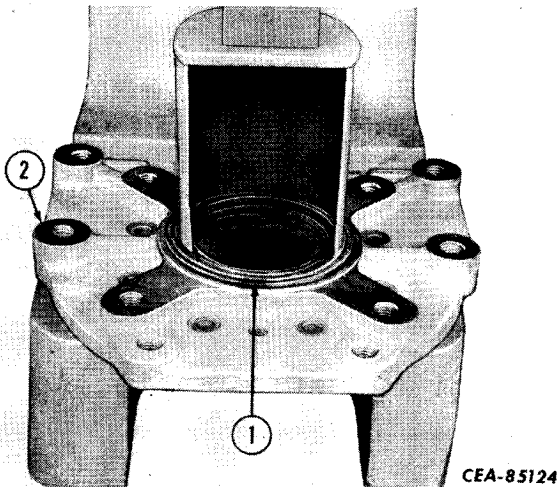

Figure 5-34
Coat the O. D. of a new oil seal (1, Fig. 5-34) with Mar-Seal or a comparable sealant and press seal (1) into outside face of cover (2). Spring loaded lip of seal must face in toward center of housing. Press until seal is flush with face of cover.